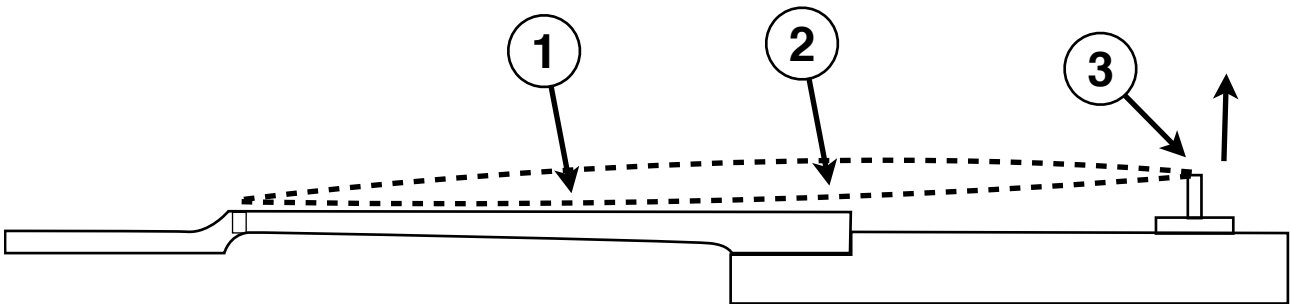

Fig. 10
This unwanted effect is commonly called "buzzing" and in order to avoid it, we have to raise the strings at the bridge, ③ in **Fig. 10**.